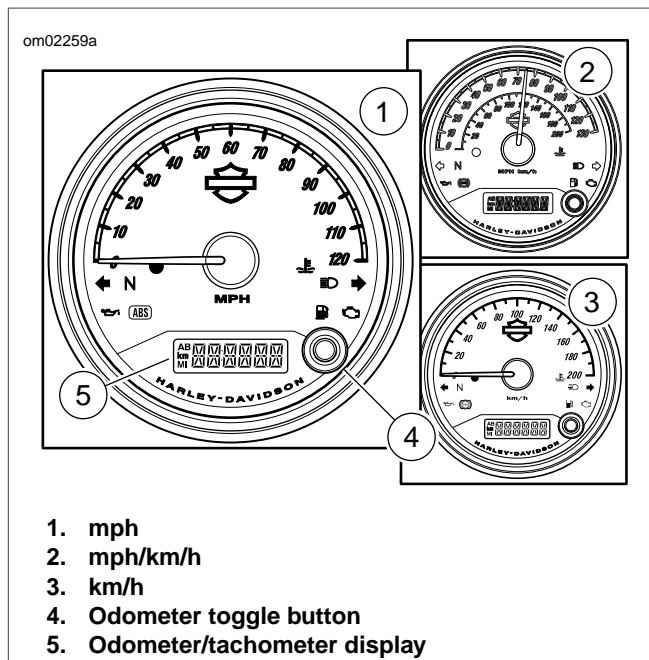

Figure 15. Speedometer/Tachometer
See Figure 15. The speedometer is calibrated in miles per hour, (mph) (1), kilometer per hour (km/h) (3) or in dual miles per hour (mph) and kilometers per hour (km/h) (2).